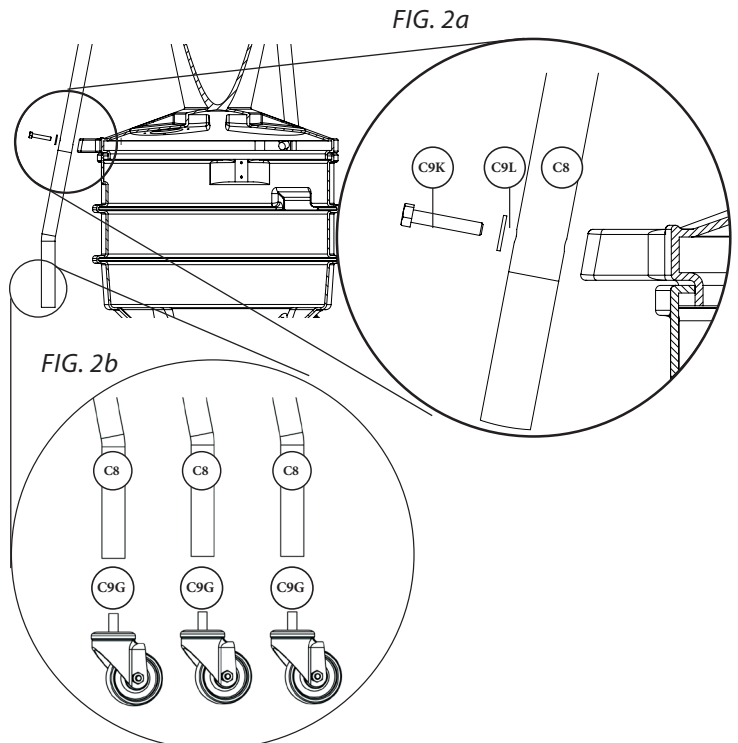

FIG. 2a
- 2** Lightly secure each Leg (C8) to the threaded inserts on the lid using three 5/16" Flat Washers (C9L) and three 5/16" x 2" Hex Head Bolts (C9K). [FIG. 2a]